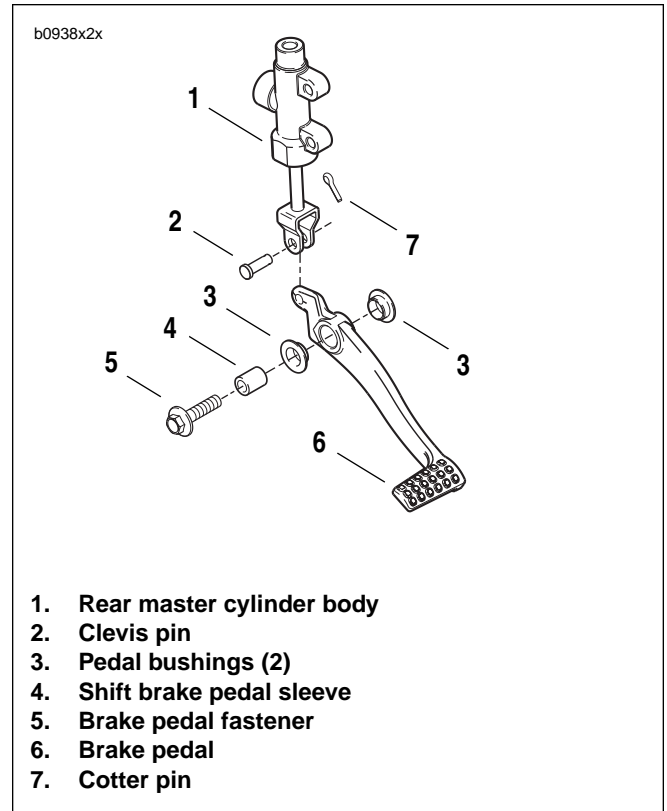

Figure 2-37. Brake Pedal Assembly
1. See Figure 2-37. Remove cotter pin (7) and discard.
2. Remove clevis pin (2).
3. Remove pedal fastener (5).
4. Remove shift brake pedal sleeve (4).
5. Remove pedal bushings (3).
6. Remove brake pedal (6).
1. See Figure 2-37. Install pedal bushings (3).
2. Install shift brake pedal sleeve (4).
3. Install brake pedal (6) using LOCTITE 272 (Red) and tighten fastener (5) to 22-24 ft-lbs (30-33 Nm).
4. Install clevis pin (2).
5. Install **new** cotter pin (7).